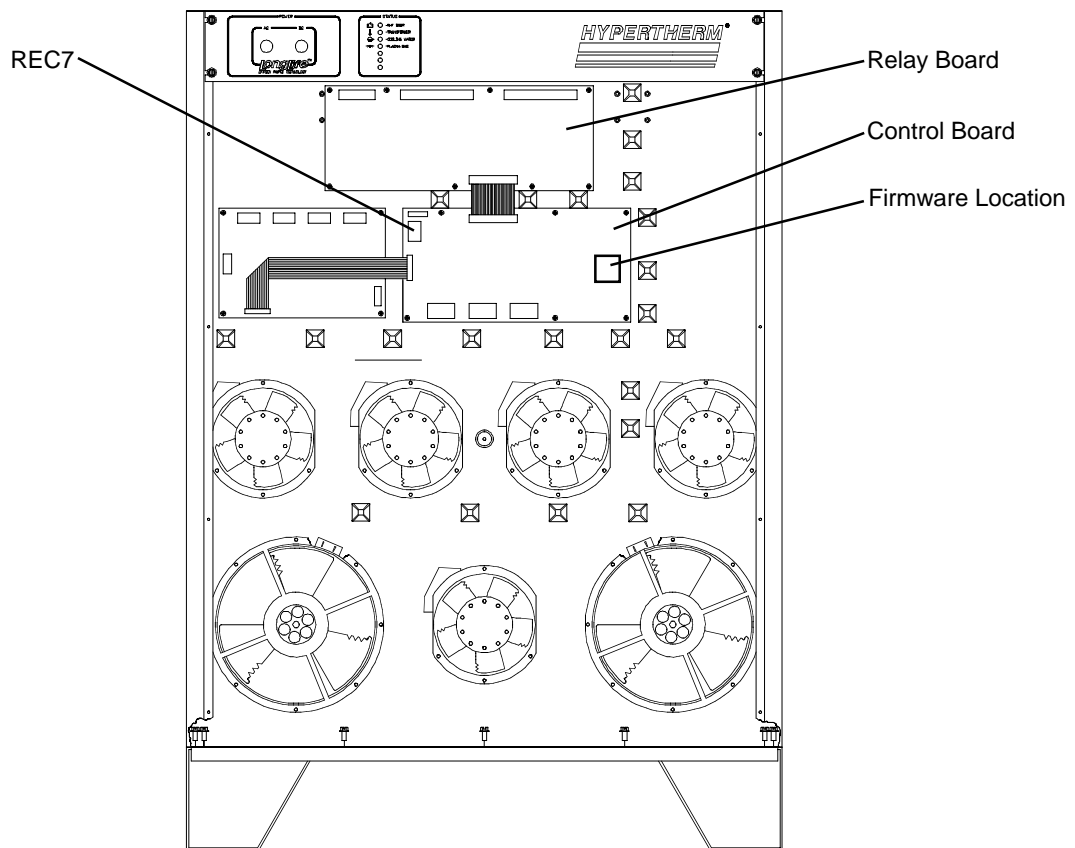

Figure 5 HT4001 Front Panel
1. Find REC7 on the Control Board - See Fig. 5.
1. Take 129371 harness from the kit and plug the connector end (PL2.7A) into the PL2.7 connector that was plugged into control board REC7 location. See Fig. 5.